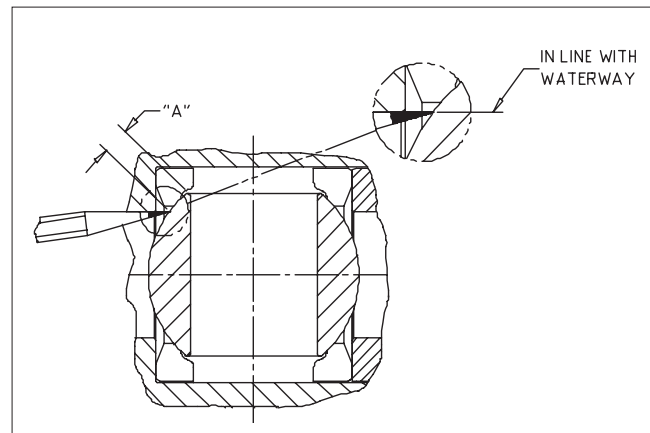

Figure 18. Correct Ball Position
**Valve Close Position:** With the valve in the closed position (actuator is against the "CLOSE" travel stop), make a pencil mark on the ball at the 9:00 o'clock and 3:00 o'clock locations as shown in (**Figure 18**). Open the valve part way, and measure dimension "A". This measurement should deviate no more than  $\pm 1/16$  inch ( $\pm 1.6$  mm) from the value given in (**Table 8**) for all valve.